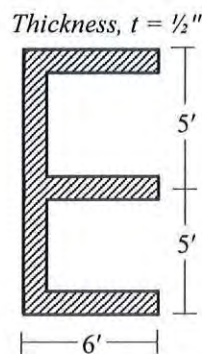

Fig.2
- Calculate Yield Moment and Plastic Moment capacity of the section shown in **Fig.2** if the section is made of elastic-fully plastic material